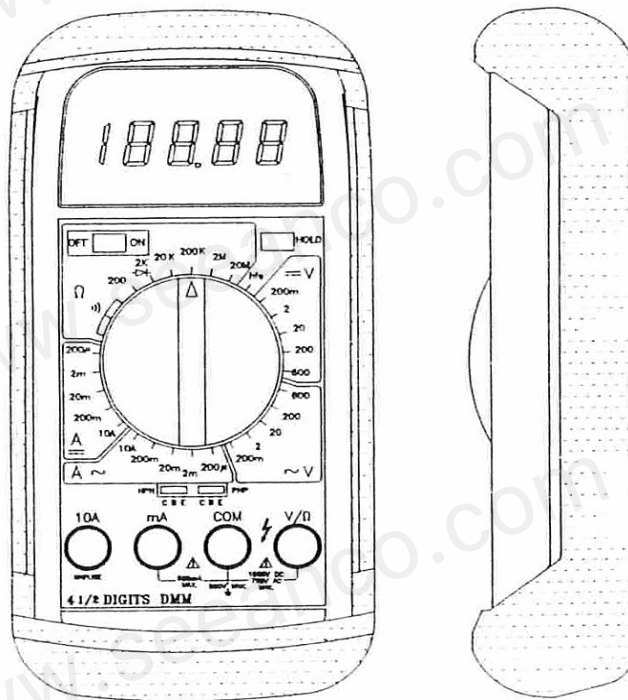

Fig. 2
- (2) When replace the fuse, please open the Battery Cover and remove the battery, refer Fig.2
- (3) Replace the fuse according the spec. and reinstate the battery cover again.